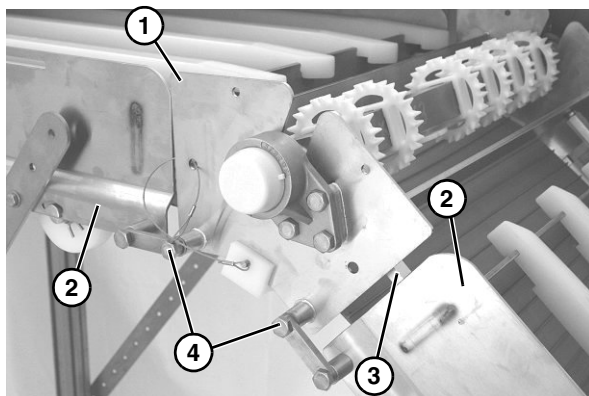

Figure 13
- Attach upper knuckle (**Figure 13, item 1**) to frame (**Figure 13, item 2**) with hex rods (**Figure 13, item 3**) and bolts (**Figure 13, item 4**).